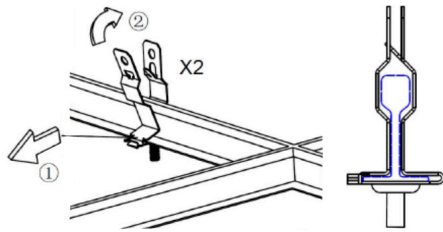

Fig. 5.3
4. Install the brackets on the T-Grid bar. (Fig. 5.3)